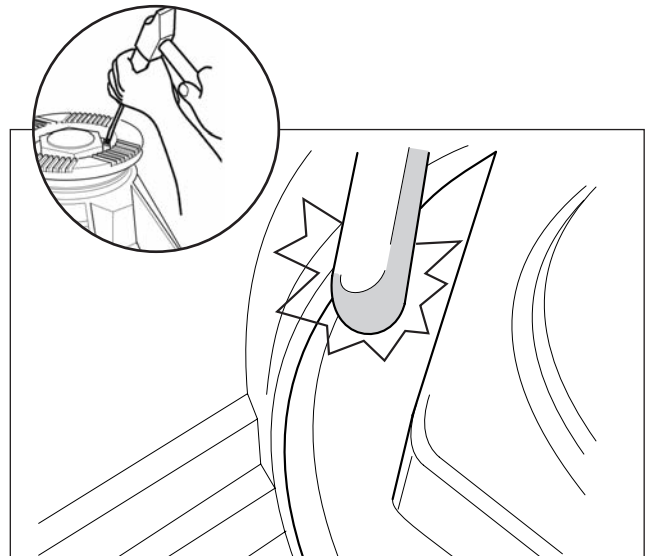

Fig. 4.16
11. With a suitable ball nosed punch, indent lock nut in two places directly above the slots in the flange. (Figs. 4.16 and 4.17)